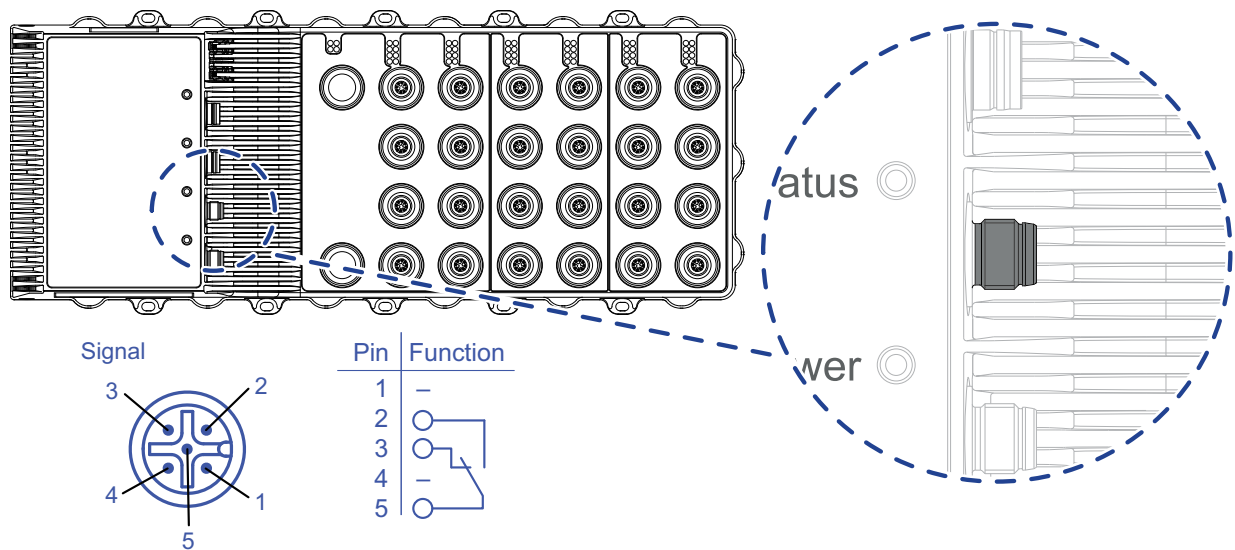

Figure 6: Signal contact: 5-pin, "A"-coded M12 plug; position on the device (front side of the device)
The signal contact is a potential-free changeover contact. If the device is not connected to a power supply, the changeover contact (5) is connected to the normally closed contact (3) (see figure 6).